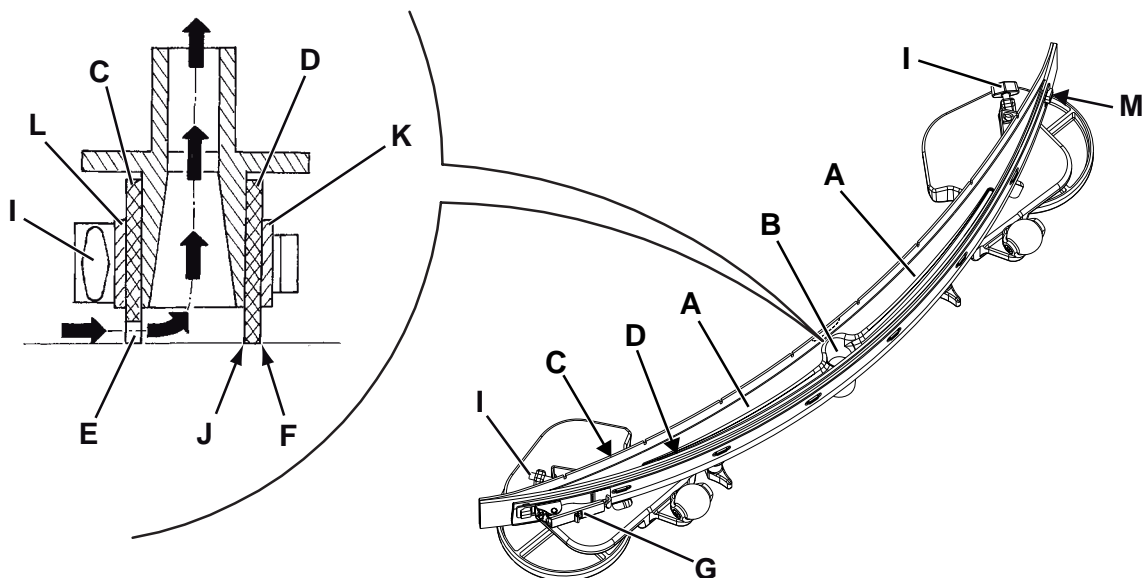

Figure 7
2. Insert the ignition key (58) and turn it to "I".
3. Lower the squeegee (30) with the switch (65).
4. Turn the ignition key (58) to "0".
5. Disconnect the vacuum hose (31) from the squeegee.
6. Loosen the handwheels (34) and remove the squeegee (30).
7. Wash and clean the squeegee. In particular, clean the compartments (A, Fig. 7) and the vacuum hole (B). Check that the front blade (C) and the rear blade (D) are integral and free from cuts and lacerations; if necessary replace them.
1. Clean the squeegee (Fig. 7) as shown in the previous paragraph.
2. Check that the edge (E) of the front blade (C) and the edge (F) of the rear blade (D) lay down on the same level, along their length; otherwise adjust their height according to the following procedure:
- Remove the tie rod (G), disengage the fastener (M) and adjust the rear blade (D); then engage the fastener and install the tie rod.
- Loosen the handwheels (I) and adjust the front blade (C); then tighten the handwheels.
3. Check the front blade (C) and rear blade (D) for integrity, cuts and tears; if necessary replace them as shown below. Check that the front corner (J) of the rear blade is not worn; otherwise, turn the blade over to replace the worn corner with an integral one. If the other corners are worn too, replace the blade according to the following procedure:
- Remove the tie rod (G), disengage the fastener (M) and remove the retaining strip (K), then replace/turn over the rear blade (D).
- Unscrew the handwheels (I) and remove the retaining strip (L), then replace the front blade (C).
4. Connect the vacuum hose (31) to the squeegee.